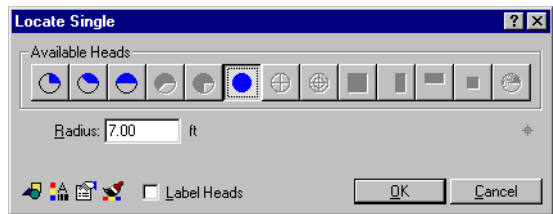

Figure 3-3 Locate Single Dialog Box
The Locate Single dialog box (Figure 3-3 on page 64) displays.
7. Click on Cancel to close the Locate Single dialog box (Figure 3-3 on page 64).